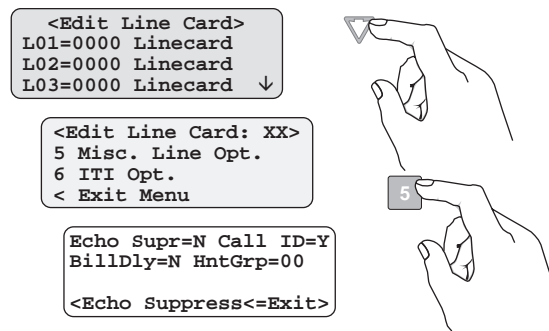

Figure 5-15 Miscellaneous Phone Line Options
2. Press **5** for Miscellaneous Line Options menu (Figure 5-15).